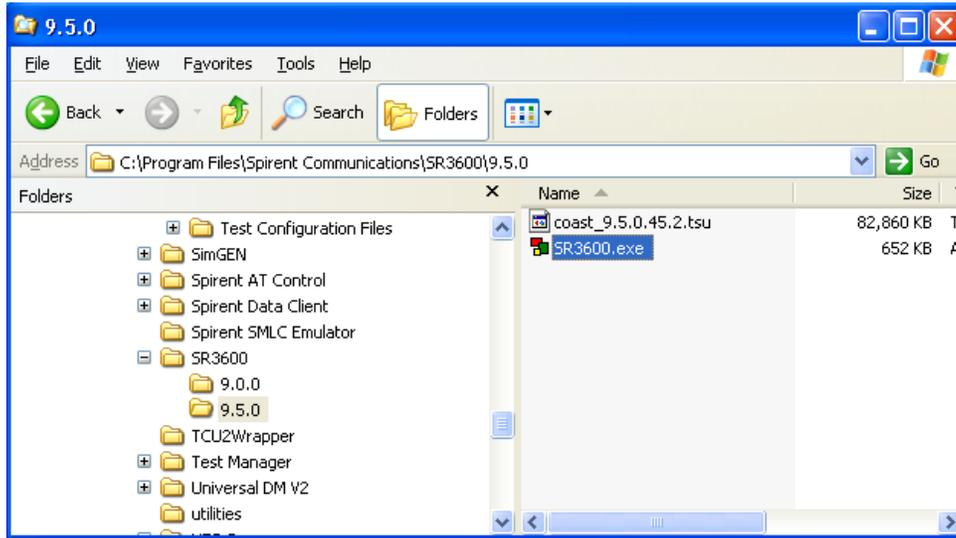

Figure 2-15: SR3600 Folder
1. From the Controller PC, navigate to **C:\Program Files\Spirent Communications\SR3600\x.x.x**, as shown in Figure 2-15. If there is more than one folder, open the most recent.